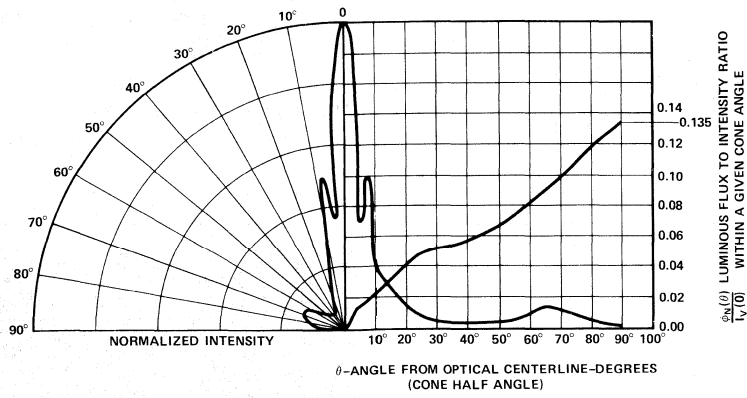

Figure 7. Relative Luminous Intensity vs. Angular Displacement
Where: φV(θ)/IV(0) is obtained from Figure 7.